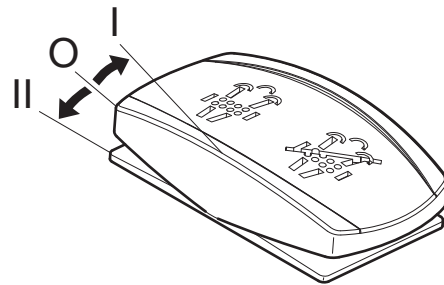

Figure 61
4. Activate regeneration switch (Figure 61) to start regeneration process.